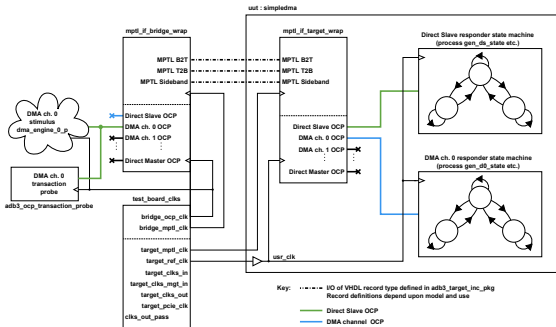

Figure 22 : SimpleDMA Design Testbench and Top Level Block Diagram (MPTL)
Figure 22 shows the testbench and embedded SimpleDMA FPGA design (MPTL).
- The testbench OCP clock `ocp_clk_out` path is shown in Figure 22 as the route consisting of points 1, 2, 3 and 6.
- The testbench OCP clock `ocp_clk_out` path is shown in Figure 22 as the route consisting of points 4, 5 and 6.